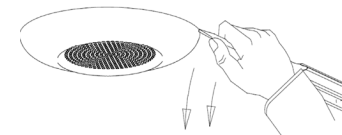

Figure 7: Grille Removal
- To remove the grille, insert a small flat screwdriver into the slots on either side of grille to disengage the snaps. See Figure 7.